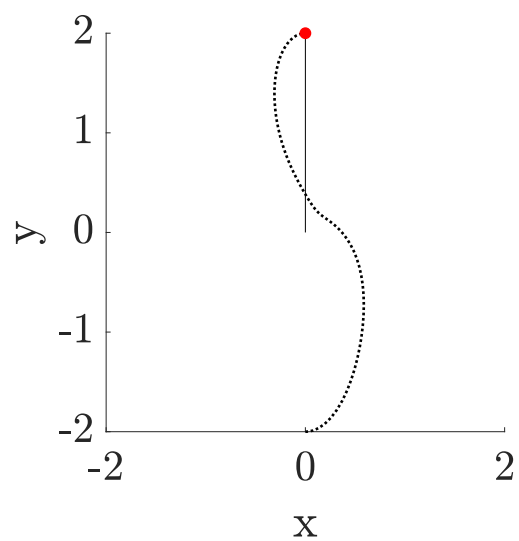

Figure 1: Optimized swing up trajectory with no joint limits.
**Solution:** (30 points) See attached code and Fig. 1 and 2 . The trajectory with inequality constraints on the joint angles cannot take advantage of the singular position as effectively as the unconstrained solution. The end effector remains further from the origin over the course of the trajectory and as a result yields a higher thermal cost (119.76 versus 79.04).